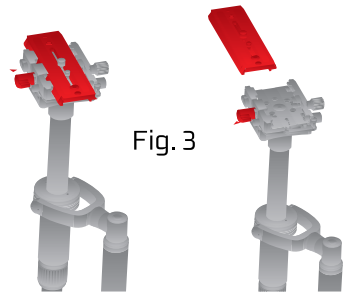

Fig. 3
5. Slide the camera/quick-release assembly into the sled. You should hear the locking pin click into place. (Fig. 3)